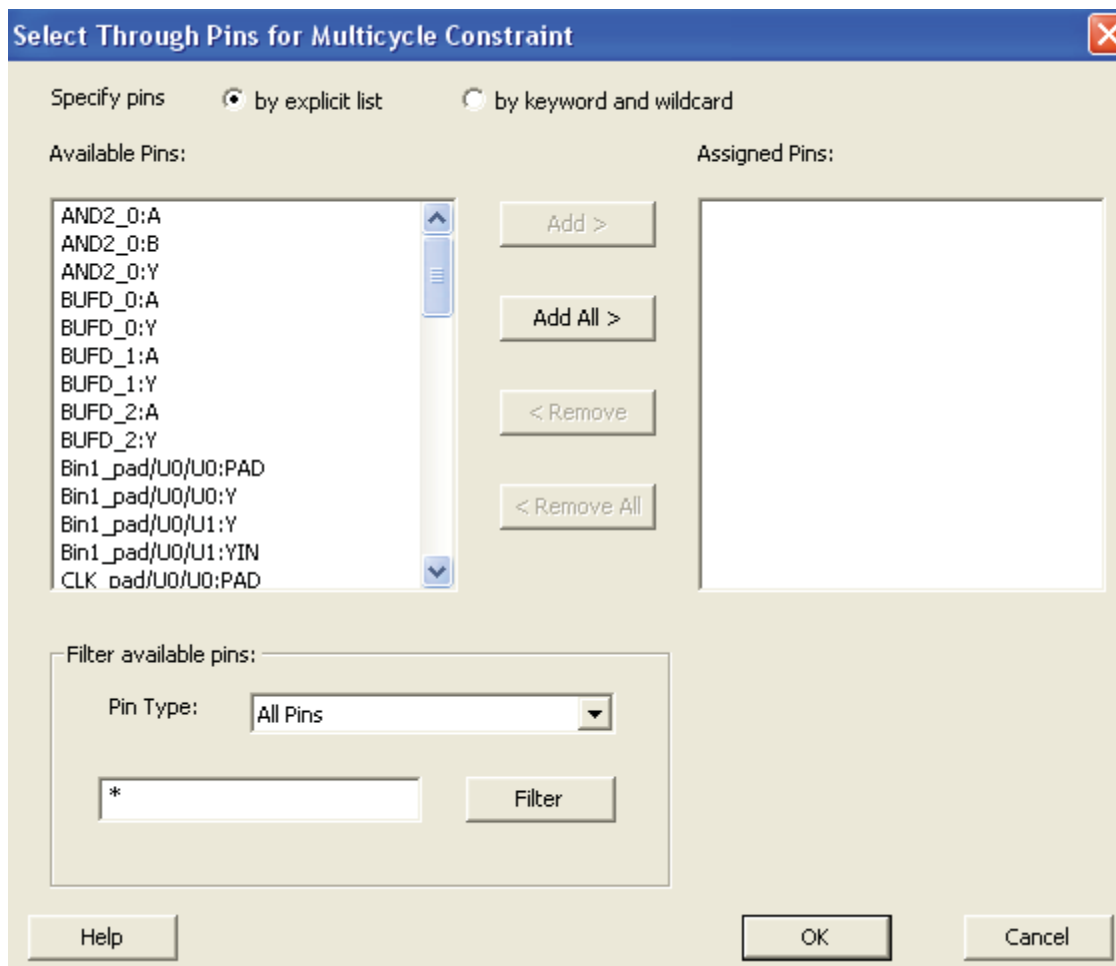

Figure 61 • Adding Through Pins for Multicycle Path
- Click the browse button at the **Through** text box. The Select Through Pins for Multicycle Constraint dialog box is displayed with the list of available pins in the design, as shown in Figure 61.